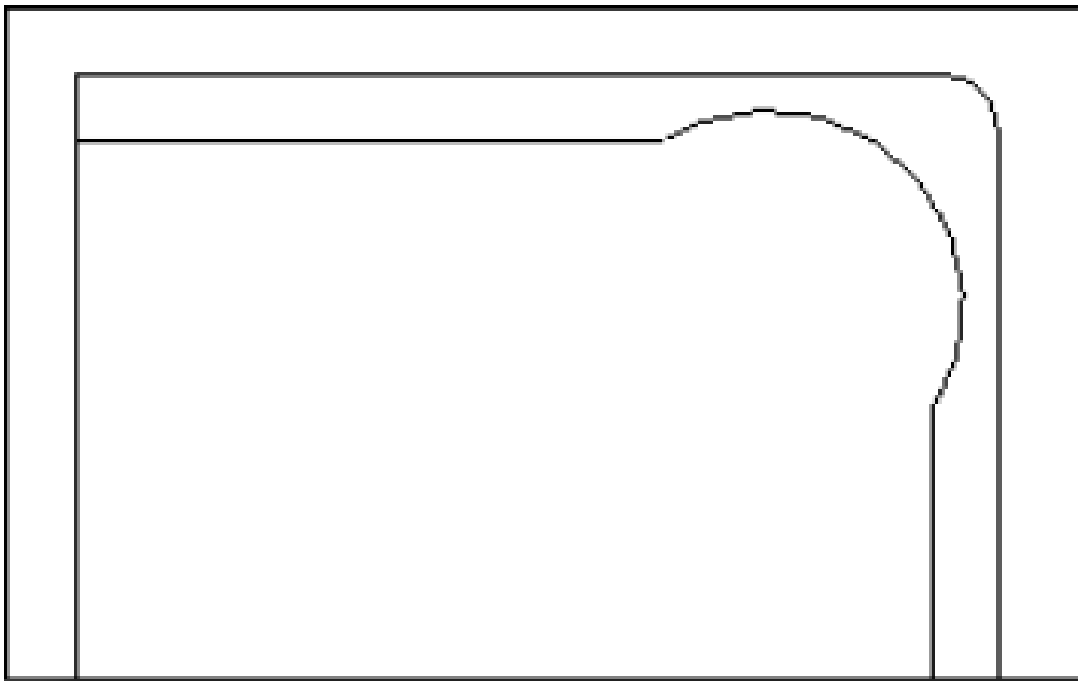

Figure 5: Virtual Sharp or Small Corner Radius, Source: Pro CNC Inc.
- If a long small radius is required, consider utilizing a virtual sharp or small corner radius. Figure 5 illustrates how a virtually square corner can be made with very little intrusion into the wall.